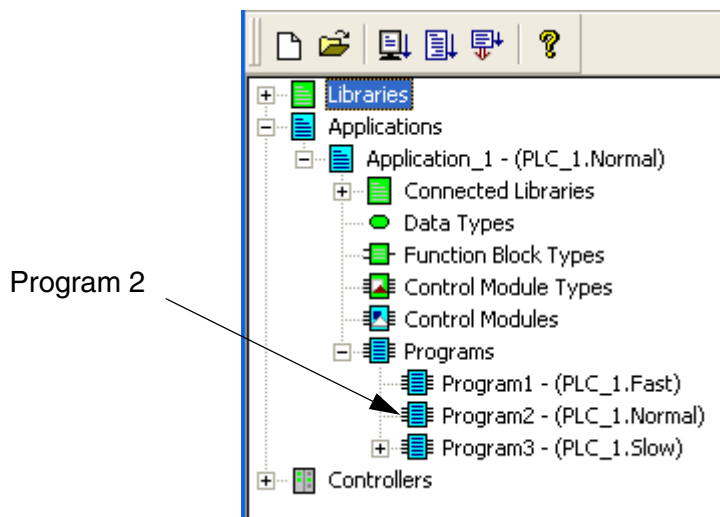

Figure 18. Programs folder expanded with three preset programs available.
1. In the Project Explorer, expand the project tree until you see **Program2**, (Figure 18). Double-click the icon to open the Program editor.
Make sure the program editor is open, (see Figure 18, to open editor)